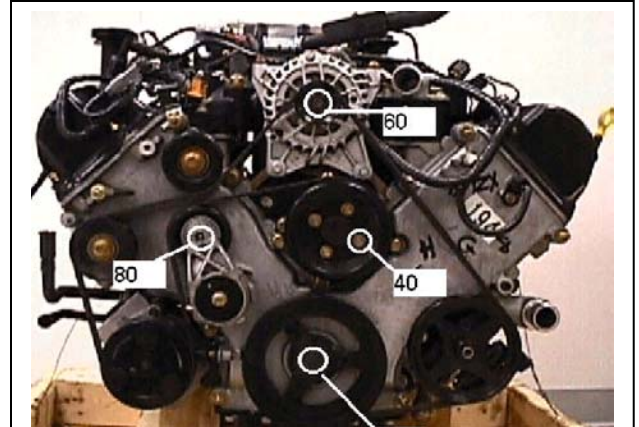

Figure 1
1. Using an 18mm socket with 3/8" drive ratchet remove the bolt in the center of the harmonic balancer (FIGURE 1). Keep the stock washer for attaching the Saleen pulley.
2. Remove the four bolts from the water pump pulley using a 10mm socket. (FIGURE 1). You may have someone hold the pulley to keep it still or leverage a screwdriver against a pair of water pump bolts.
3. With a 15/16" socket and 3/8" drive ratchet, remove the bolt from the center of the alternator, and retain the bolt for installing the Saleen pulley (FIGURE 1).